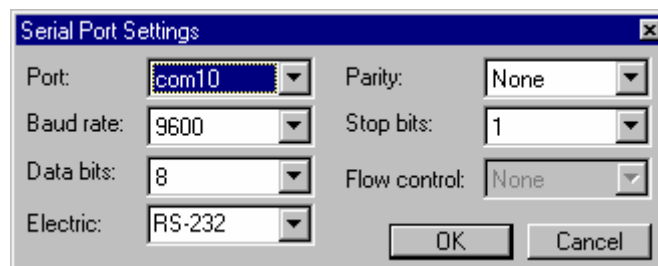

Figure 58 Serial Port Setting
- The property of the selected Device are set by clicking in the wanted **Properties** cell belonging to the "Host Out" device, and the box shown in Figure 58 appears. Select the wanted settings and click **OK**. Click in the wanted **Properties** cell belonging to the "Network Out" device, and the **Network Settings** dialogue box below appears. Select the wanted Port Number and click **OK**. The default port number is recommended used unless it is in conflict with other equipment connected to the network.